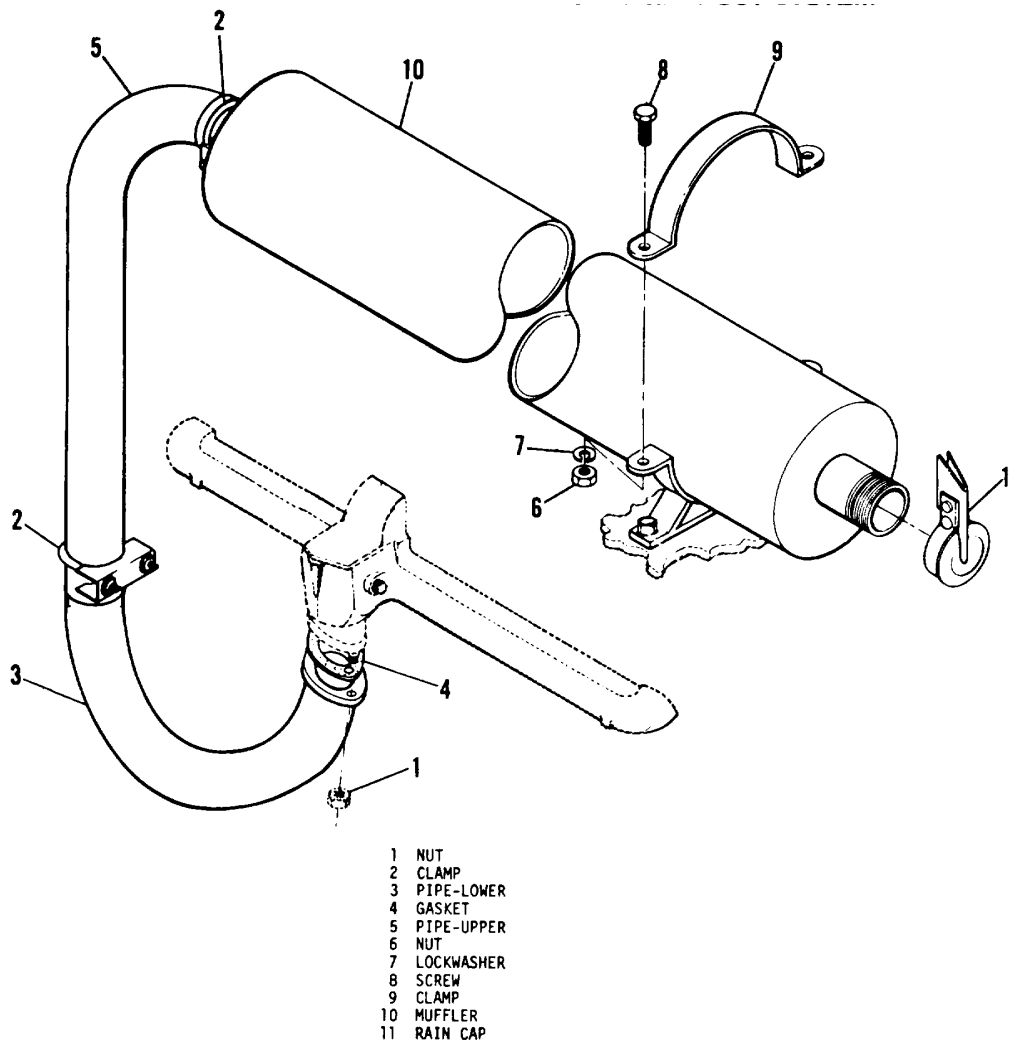

Figure 4-14. muffler, and exhaust pipe
a. *Removal.* Remove the muffler, and the exhaust pipe by removing parts in order of ascending numeric sequence of numbers (1 through 11) assigned to figure 4-14